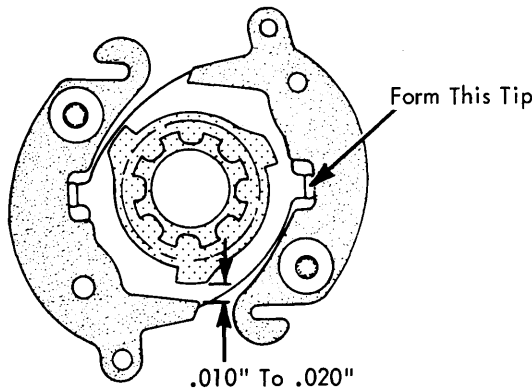

FIGURE 1. Motor Clutch Pawls
3. Motor Clutch Pawl Stops (Fig. 1) - Form for a clearance of $.010''$ to $.020''$ between the clutch pawl tip and pulley ratchet when the pulley is manually rotated.